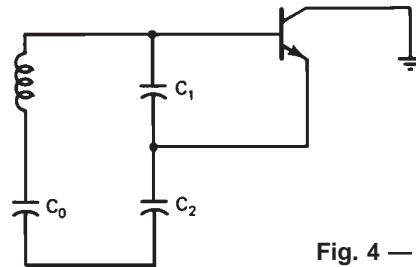

Fig. 4 — Circuit of Clapp oscillator.
An oscillator circuit known as the *Clapp* circuit or *Clapp-Gouriet* circuit is shown in Figure 4. This oscillator is equivalent to the one just discussed, but it has the practical advantage of being able to provide another degree of design freedom by making C_0 much smaller than C_1 and C_2 . It is possible to use C_1 and C_2 to satisfy the condition of Eq. (10) and then adjust C_0 for the desired frequency of oscillation ω_0 which is determined from